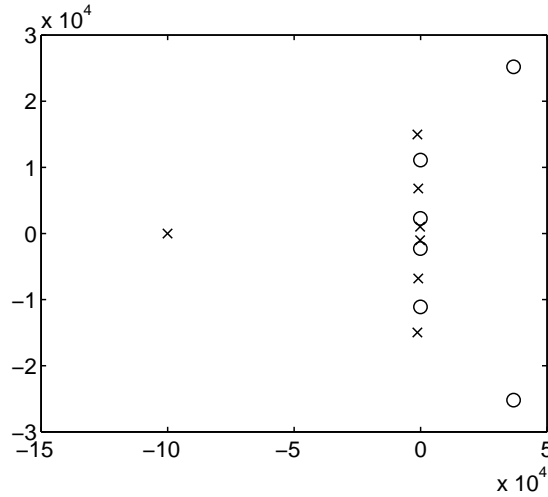
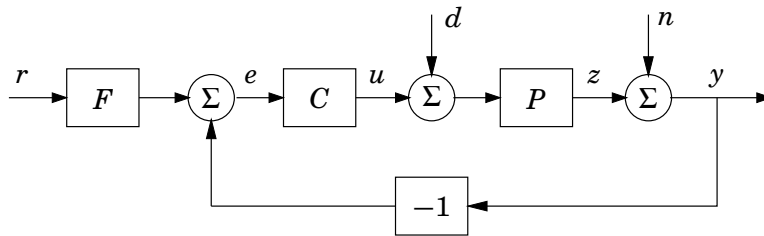

Figure 6.2 Pole-zero configuration of a resonant mechanical system.
Figure 6.3 Two degree of freedom controller structure.
- 6.2** A resonant mechanical system has the pole-zero configuration shown in Figure 6.2. The controller structure is given by Figure 6.3.
6.3 Consider the setup in Figure 6.3 with $P(s) = (3 - s)/(s + 1)^2$
- 6.7** Consider the setup in Figure 6.3 with